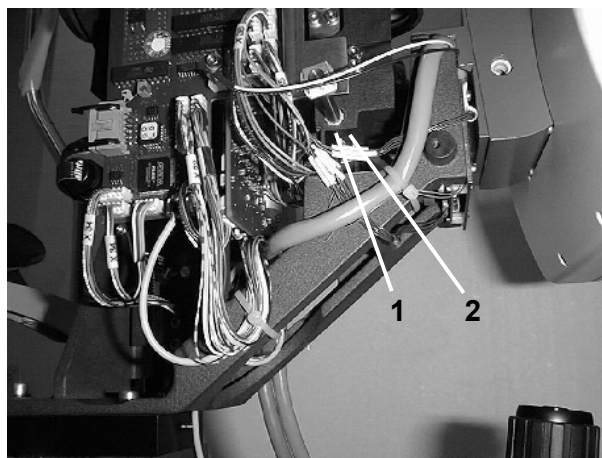

Fig. 29
If the light barrier is not actuated as required and described above, the position of the U-shaped light barrier ((1) Fig. 29) must be re-adjusted to the left or right. To do this, loosen screws ((2) Fig. 29) and shift the light barrier.